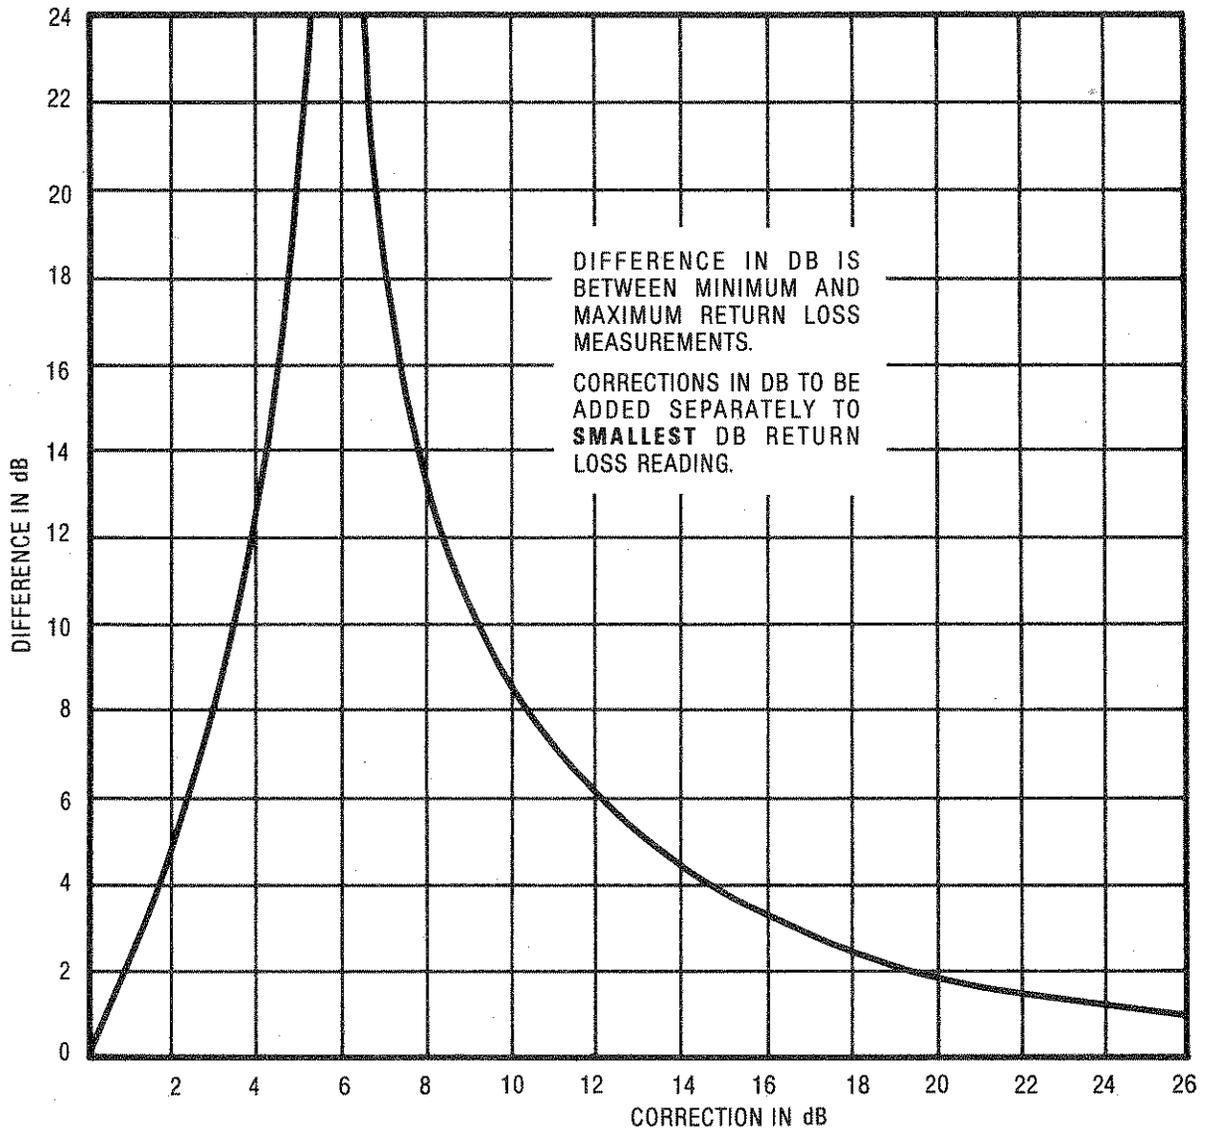

Figure 4-3. Signal Separation Chart
11. For each frequency, the maximum and minimum measured return loss values correspond to the directivity signal and the sliding load reflected signal adding and subtracting. These two signals can be separated using a Signal Separation Chart, Figure 4-3. Calculate the **difference** in dB between the maximum and minimum measured return loss at each frequency (the low and high point on the trace), and locate this value on the vertical axis. Intersect the curves in two places, and determine the **two** correction values in dB. Add each of these correction values to the **minimum** measured return loss (the **smaller** of the two). The resulting two corrected values are the **separated** directivity signal and sliding load reflected signal.